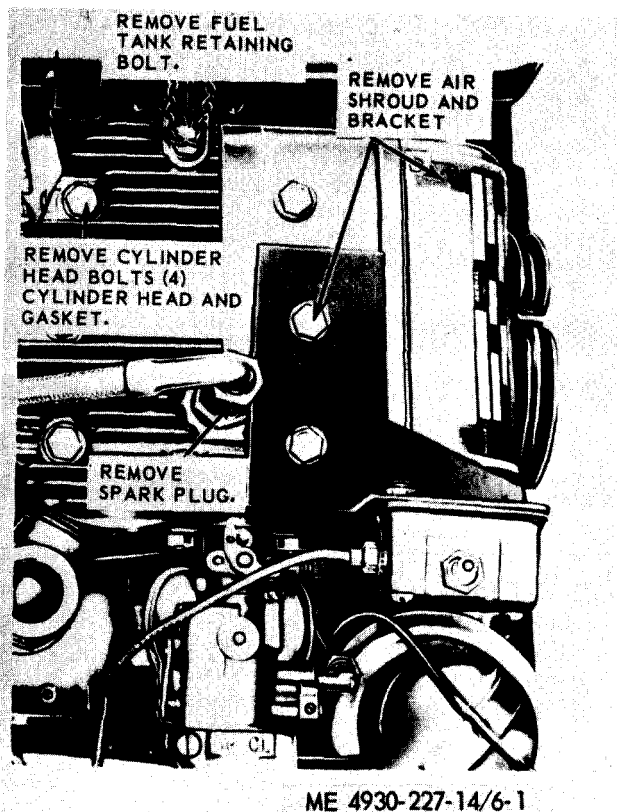
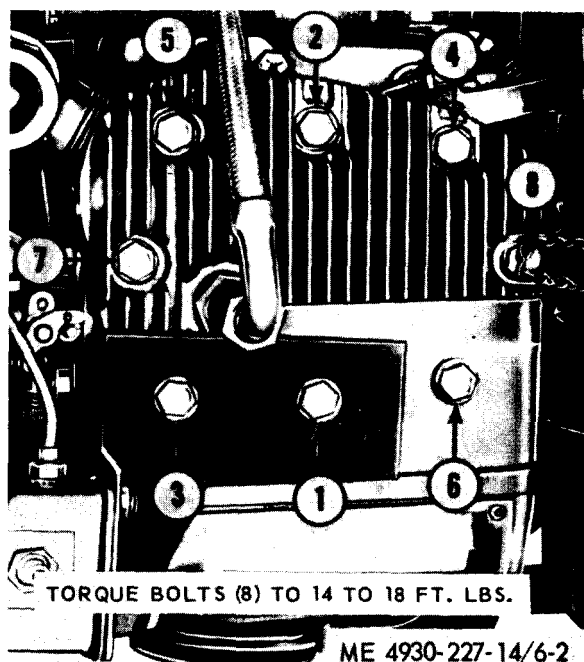

Figure 6-1. cylinder head, removal and installation.
Figure 6-2. Cylinder head bolts, tightening sequence.
(1) Remove the spark plug (para 3-23).
(2) Remove the air shroud (para 3-20).
(3) Refer to figure 6-1 and remove the cylinder head and gasket.
(1) Refer to figure 6-1 and install the cylinder head, using a new gasket.
(2) Install the air shroud (para 3-20).
(3) Install the spark plug (para 3-23).
(4) After installation of air shroud, torque all cylinder head mounting bolts, following the sequence shown in figure 6-2.